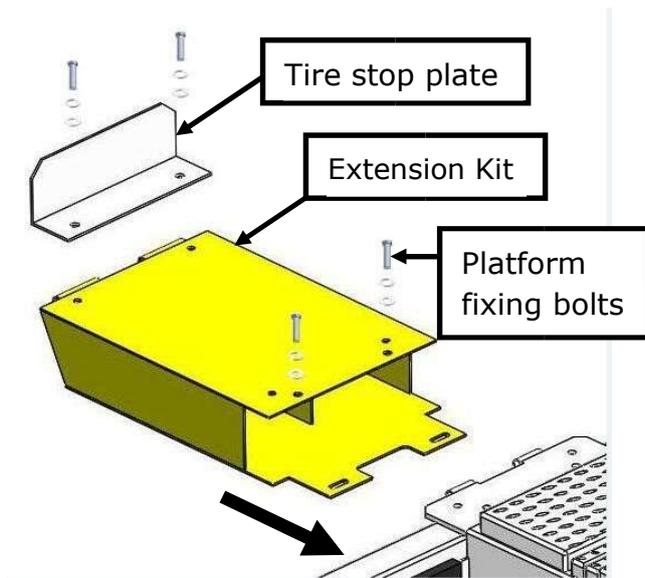
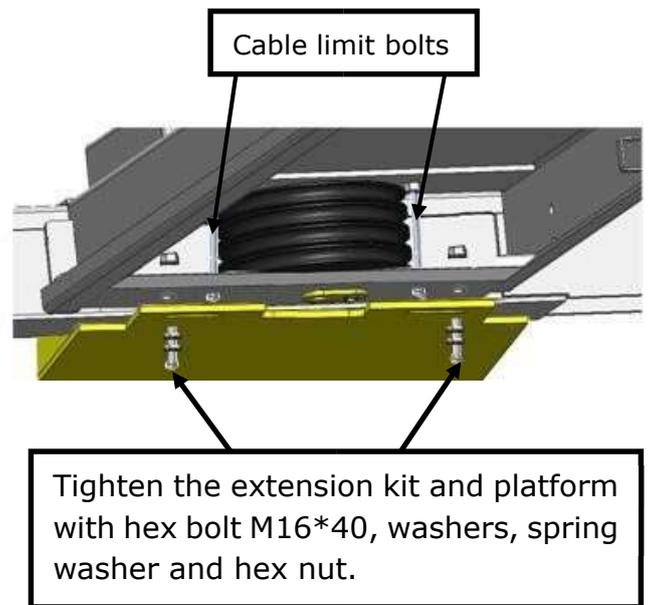

Fig.46
Fig.47
2. Put the extension kits into the platform, then tighten with the bolts. (see Fig.46, Fig.47)